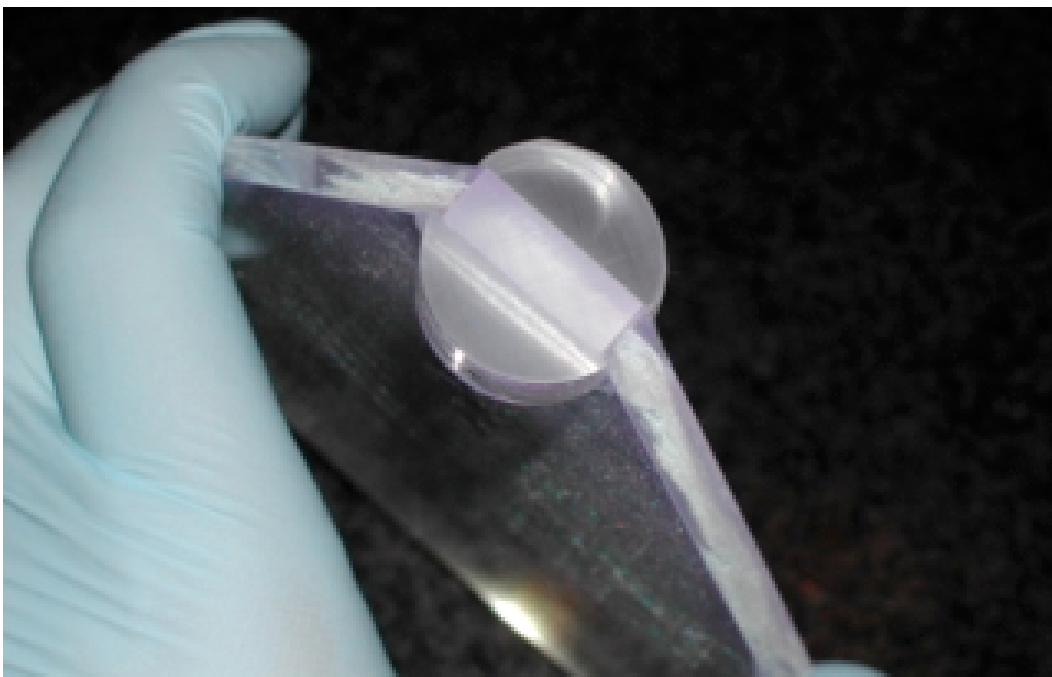

Figure 7: Coarse surface of scintillator.
6. **Repeat steps 4 and 5 until the scintillator edge is flat and evenly sanded.** The scintillator edge should have grooves or striations all going the same direction and continuous across the surface; it should have no glossy areas. See Figure 7 for illustration.